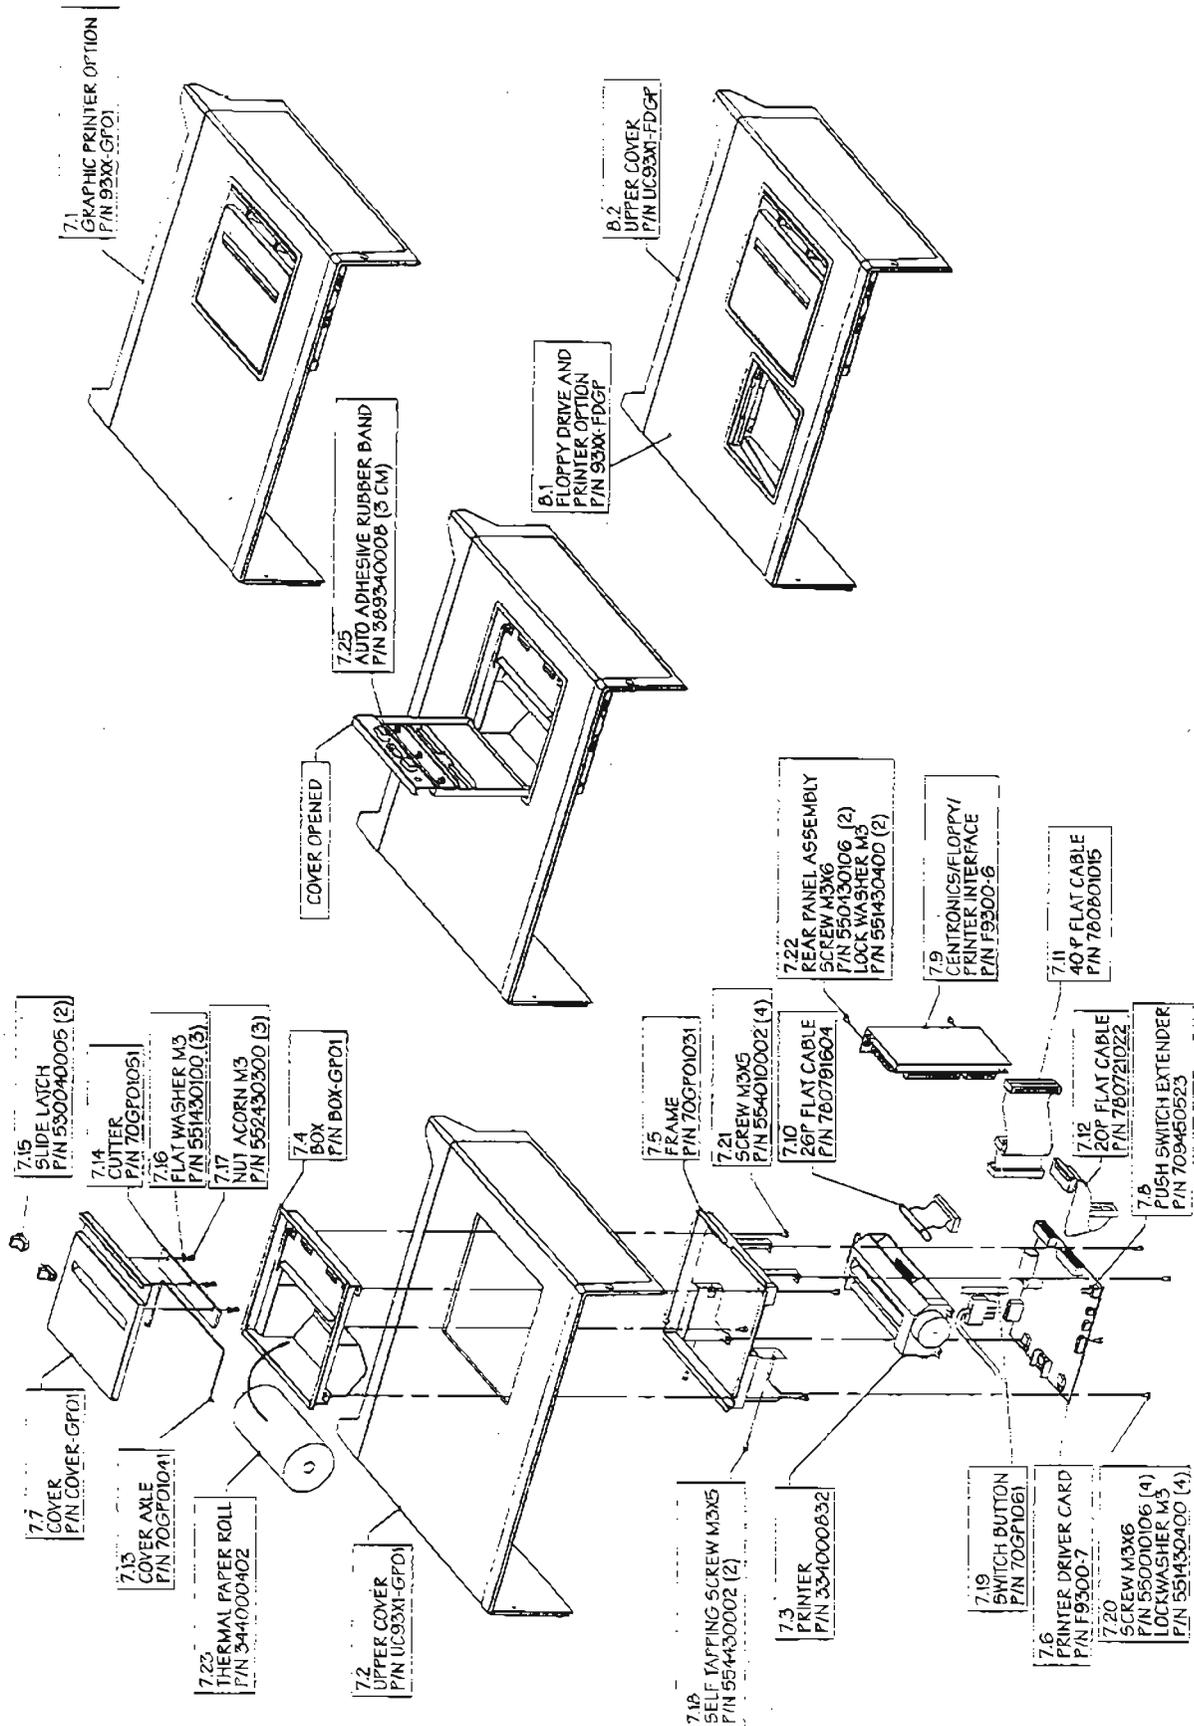

Figure 6.6 : Graphic Printer Assembly
- Disconnect the flat ribbon cable from the F9300-6 interface ( see figure 6.6).
- Disconnect the flat cable from the F9300-4 GPIB/RS232 board ( see figure 6.6 ).